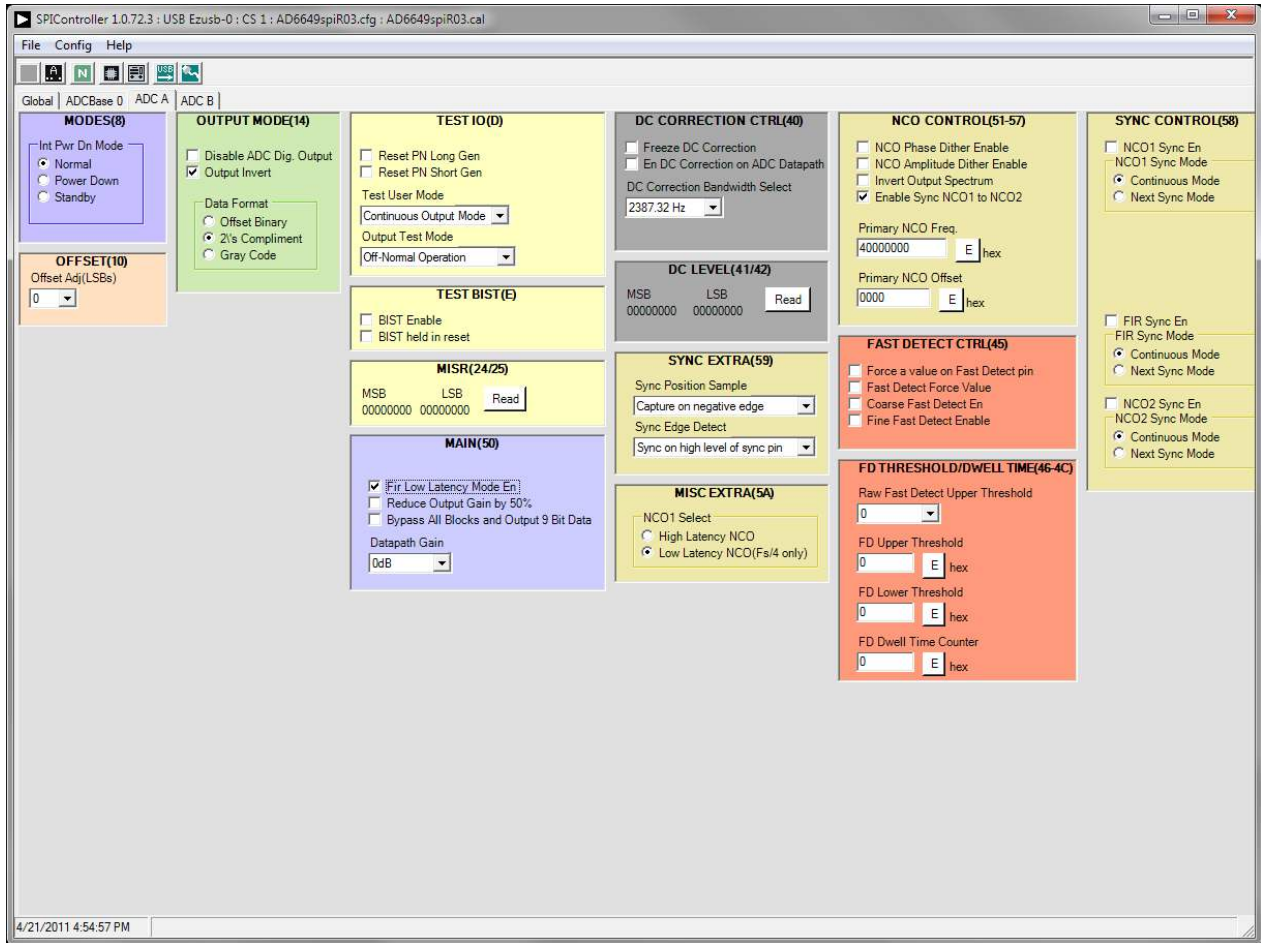

Figure 12. SPI Controller, AD6649 ADC A Tab—95 MHz FIR Filter and Fixed-Frequency NCO Mode
- If using the AD6649, the device can be configured into two different modes. The default mode utilizes a 95 MHz FIR filter and fixed-frequency NCO. The SPI controller settings for this mode are shown in Figure 12. Under the **MAIN(50)** section, the **Fir Low Latency Mode En** checkbox must be selected, and the **Low Latency NCO (Fs/4 Only)** option